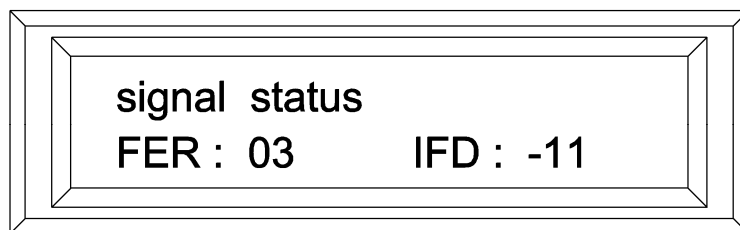

Figure 3.16. Displaying the signal status, the frame error rate (FER) is 3 %, the instantaneous frequency deviation is -11 Hz.
- Step 4.** Press the “▼” button once and the signal status is shown (*figure 3.16*).